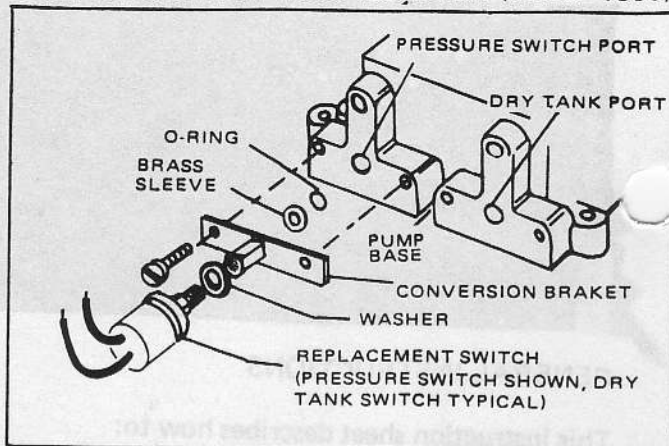

Figure 3.
Conversion kit required: Air compressor 37000 and water pump models that have dash number less than -1000. Example: 36950-0000. NOTE: If pump already has been fitted with conversion kit (Figure 3), use the direct replacement instructions, Procedure A.
4. Align conversion bracket mounting holes with those in base. Insert stub of conversion bracket into pump base with a smooth straight push. Secure conversion bracket to base with screws provided (Figure 3).